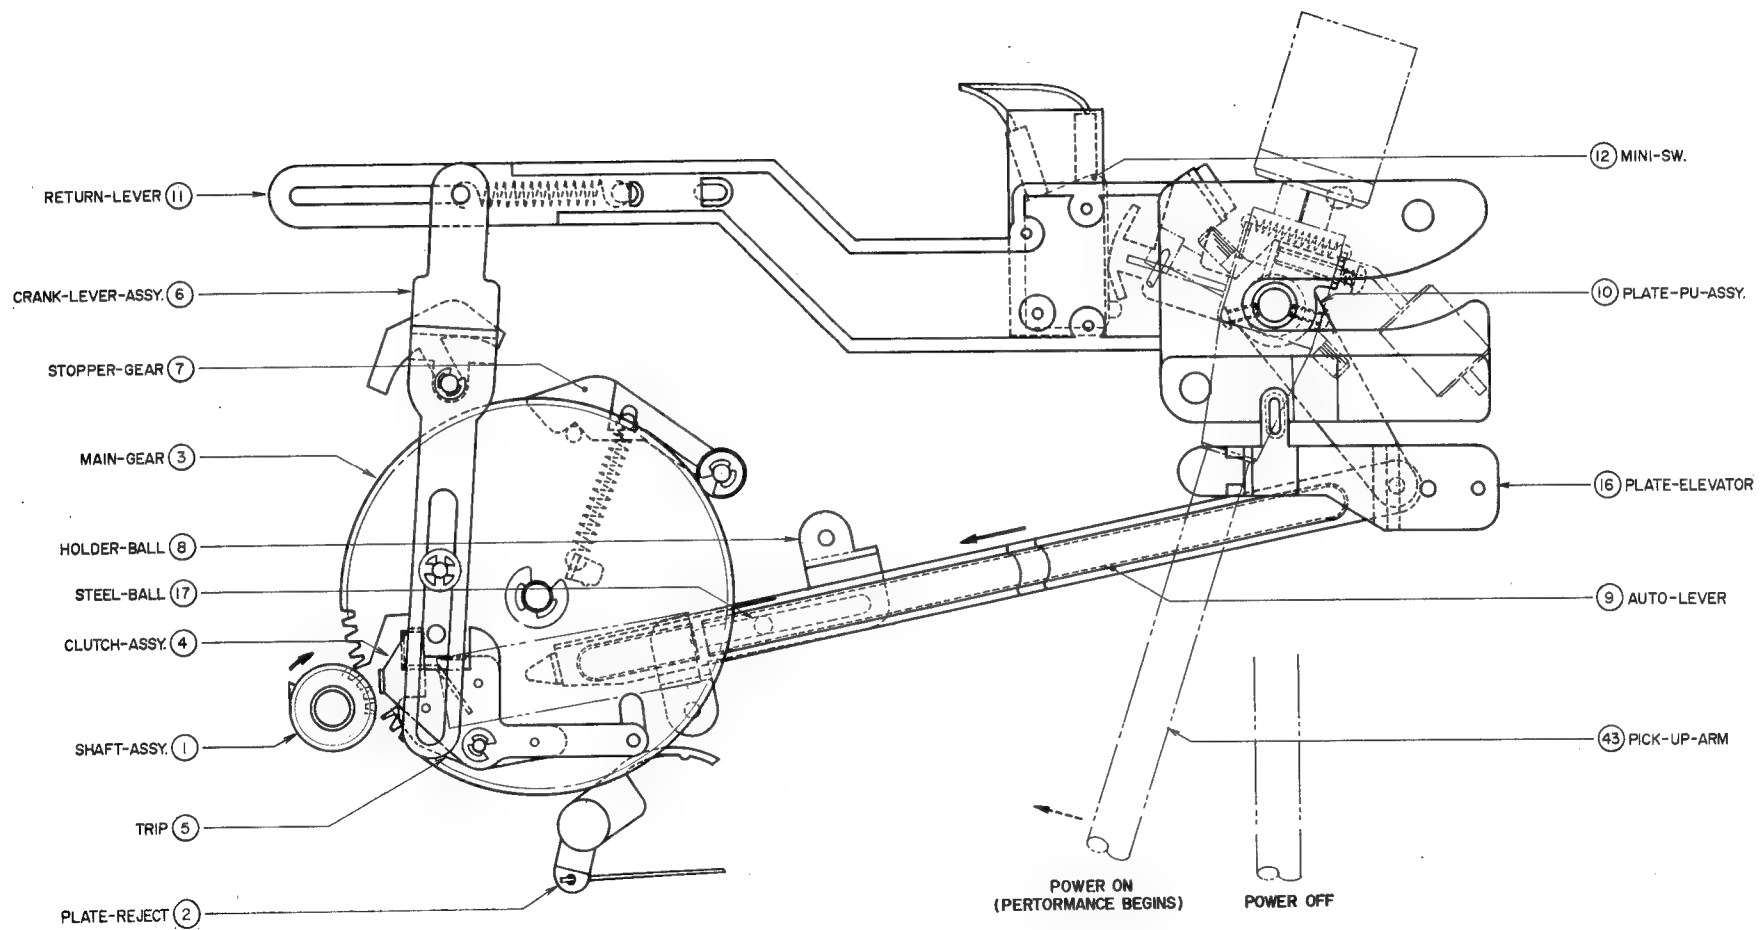
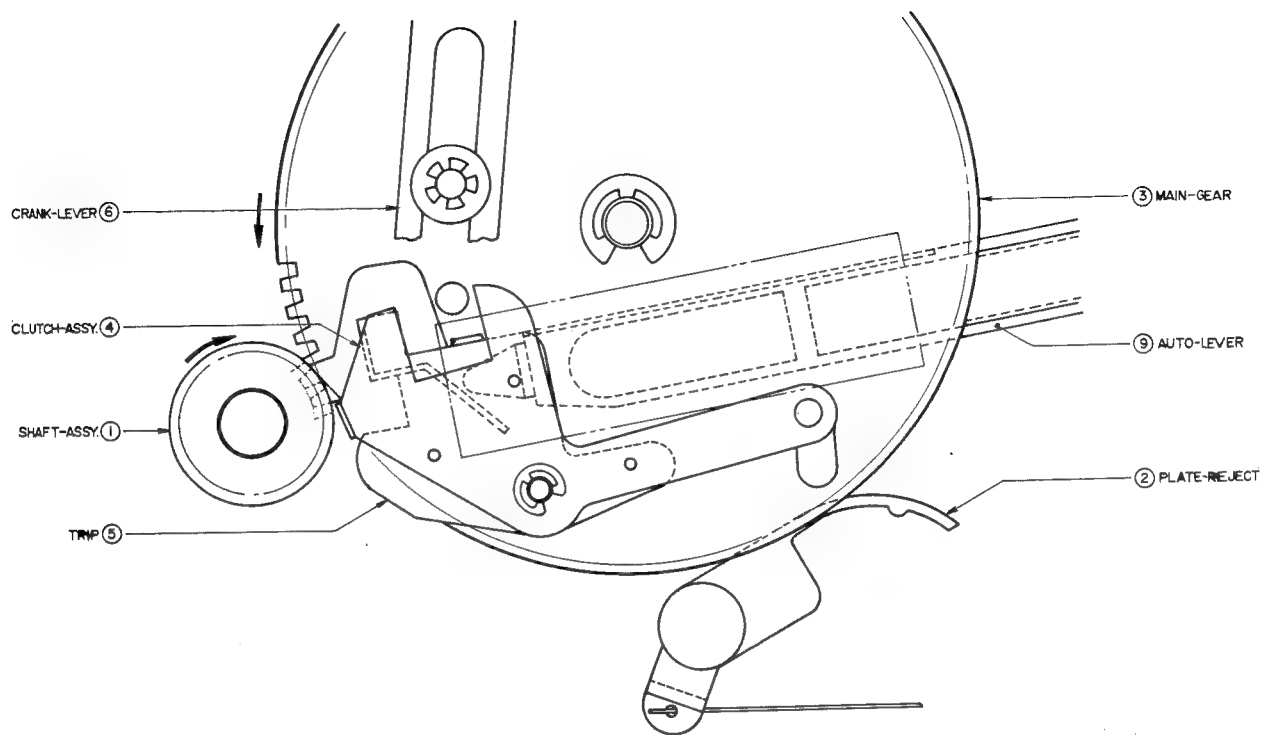
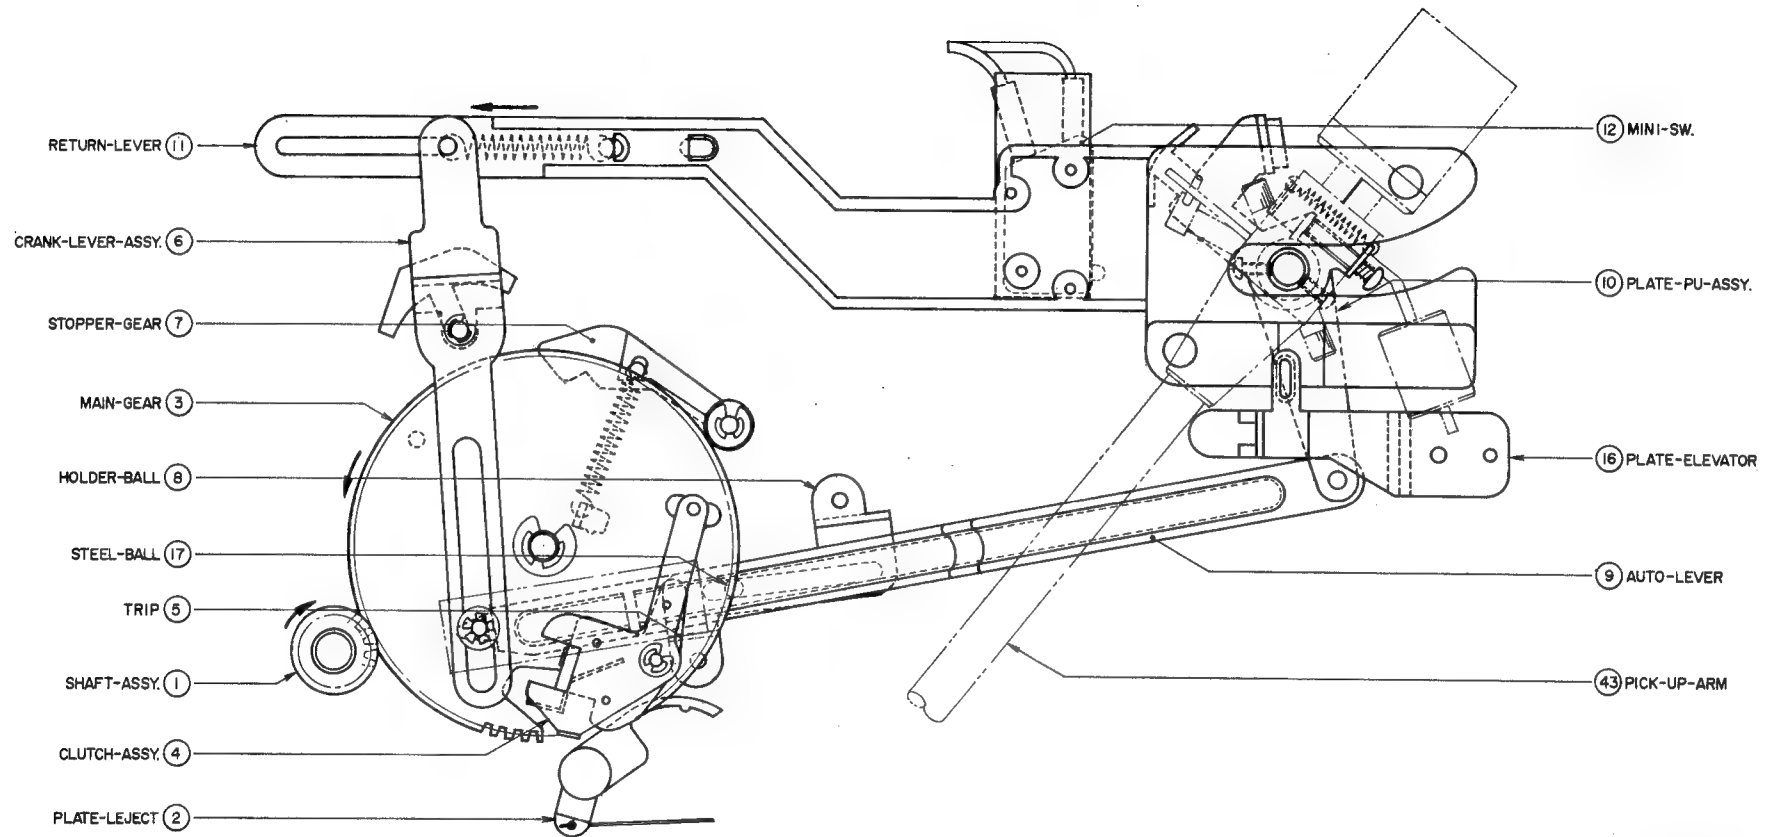
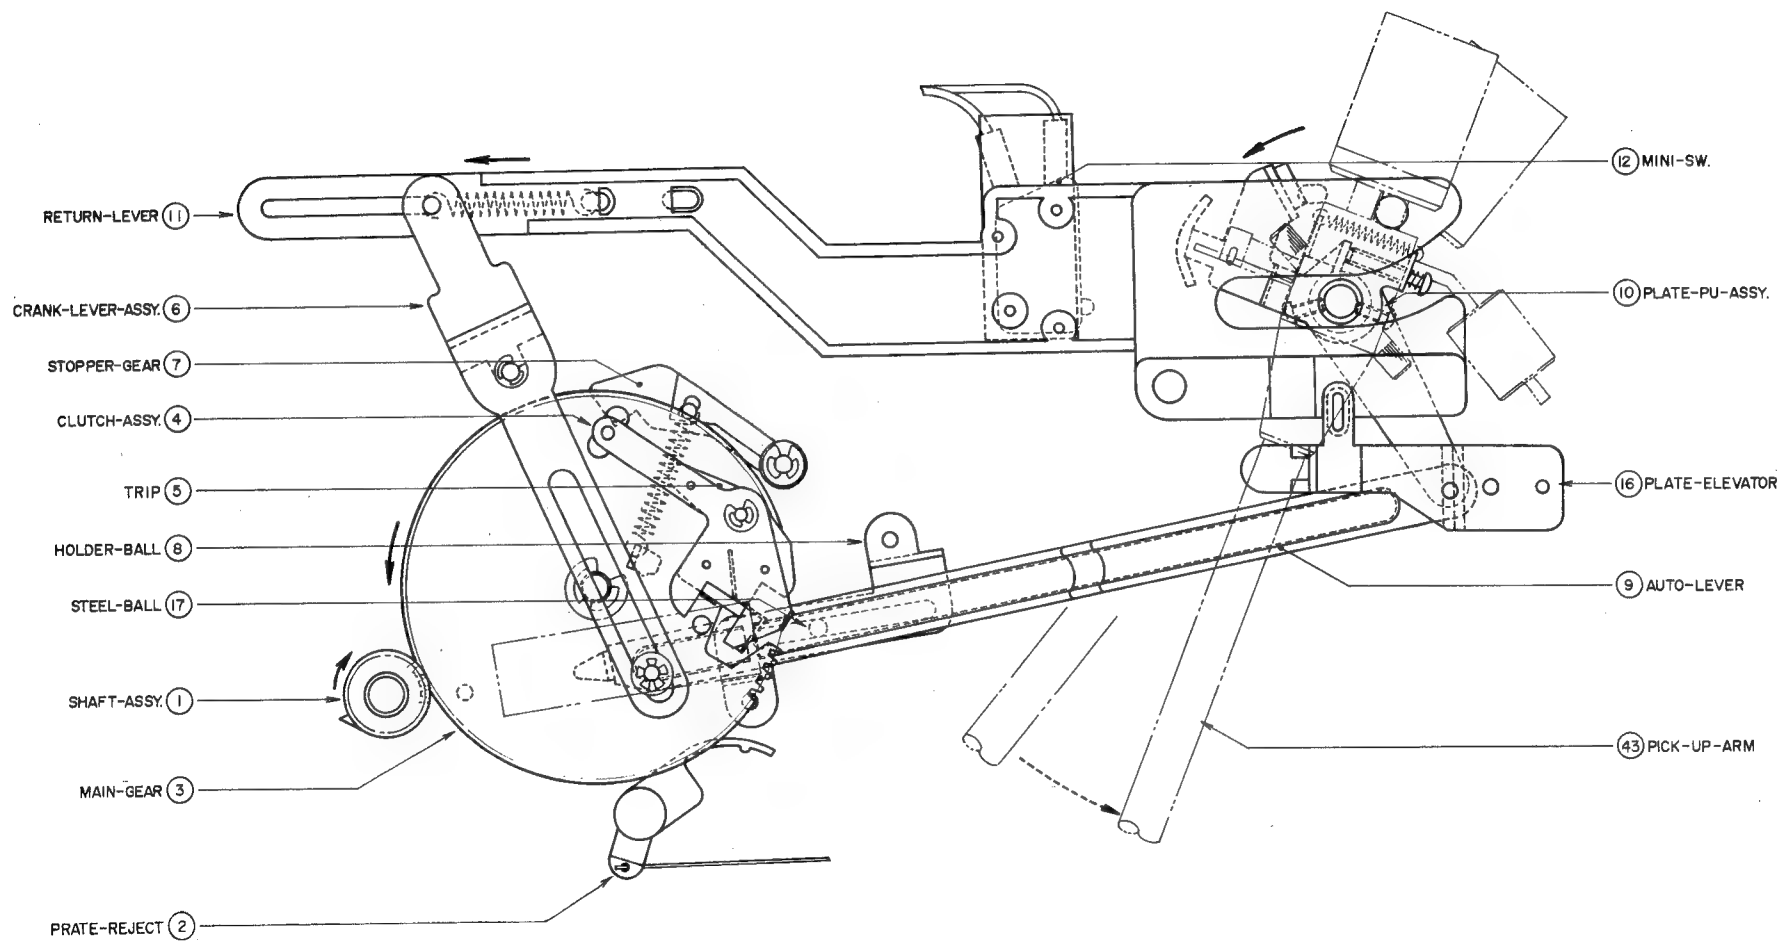

Fig. 3
Fig. 6 MAIN-GEAR REVOLUTIONS BEGIN (AUTO RETURN BEGINS)
Fig. 7 PICK UP ARM ELEVATION COMMENCES
Fig. 8 PICK UP ARM RETURN COMMENCES
As shown in Fig. 3 when the pick up arm moves to the record surface, the PLATE-PU ASSY (10) which is directly connected to the arm shaft separates from MINI SW (12), power source is turned ON, and the turntable rotates. As the pick up stylus tip traces the recorded groove of the record, AUTO LEVER (9) also advances on the inner side proportionately. Because this AUTO LEVER advances as the STEEL BALL (17) on HOLDER BALL (8) rolls, movement is extremely smooth and there is almost no influence extended to pick up arm side pressure.
At this condition, the protruding part of the gear on TABLE SHAFT ASSY (1) is drawn to CLUTCH ASSY (4) and the MAIN GEAR begins to rotate (Fig. 6). Up to now MAIN GEAR (3) had been held at a standstill by STOPPER GEAR (7) and a smooth stop effected by the teeth gap, but when the condition in Fig. 6 is assumed the teeth begin to mesh together and rotating motion begins. Then as shown in Fig. 7, this motion by means of CRANK LEVER ASSY (6) moves RETURN LEVER (11) in the direction of the arrow, and PLATE ELEVATOR (16) is raised and the lifter is elevated. When pick up arm elevation is complete, as shown in Fig. 8, the part indicated by broken line of RETURN LEVER (11) hits the cushion part attached to the tip of PLATE PU ASSY (10) and pick up arm return commences. When the pick up arm returns to the rest, the RETURN LEVER (11) by means of CRANK LEVER (6) moves in the opposite direction (broken arrow mark), PLATE PU ASSY (10) returns to former position, and in due course approaching MINI SW (12) is operated and the power source is turned OFF so that the condition in Fig. 3 is re-assumed.